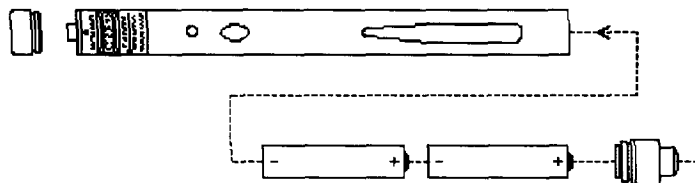

Figure 2
- 6 When the batteries are low (after about 40 hours of continuous operation) the Status LED will turn to red when switched on, please refer to Figure 2 to replace the batteries.
The VFL's light may not be visible through thick or dark-colored cable sheaths or connector dust caps. If the VFL's light is dim or does not turn on (refer to item 6 in Operations), replace the batteries as shown in Figure 2.